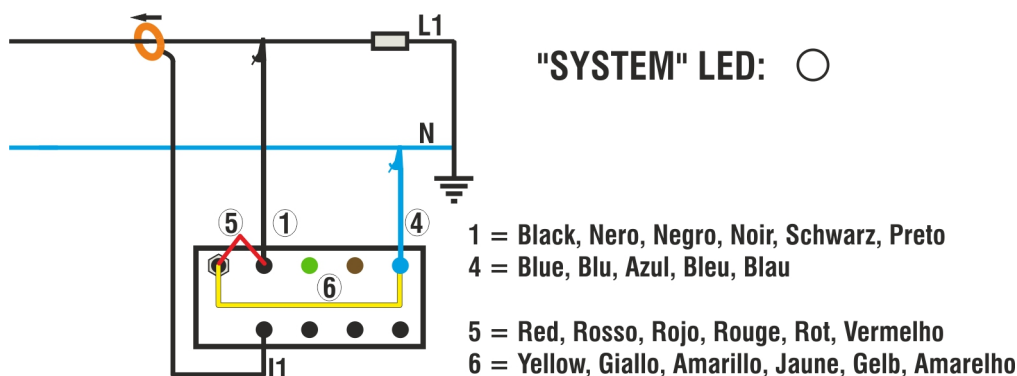

Fig. 2: Connection of the instrument to a single-phase system
2. Connect the supply terminals (red and yellow) respecting the connections indicated in Fig. 2
3. Connect the cables of the L1-N voltages, respecting the connections indicated in the Fig. 2
4. If you want to measure current and power, connect the clamp meter to the phase conductor, **respecting the direction indicated on the clamp** and the connections indicated in the Fig. 2